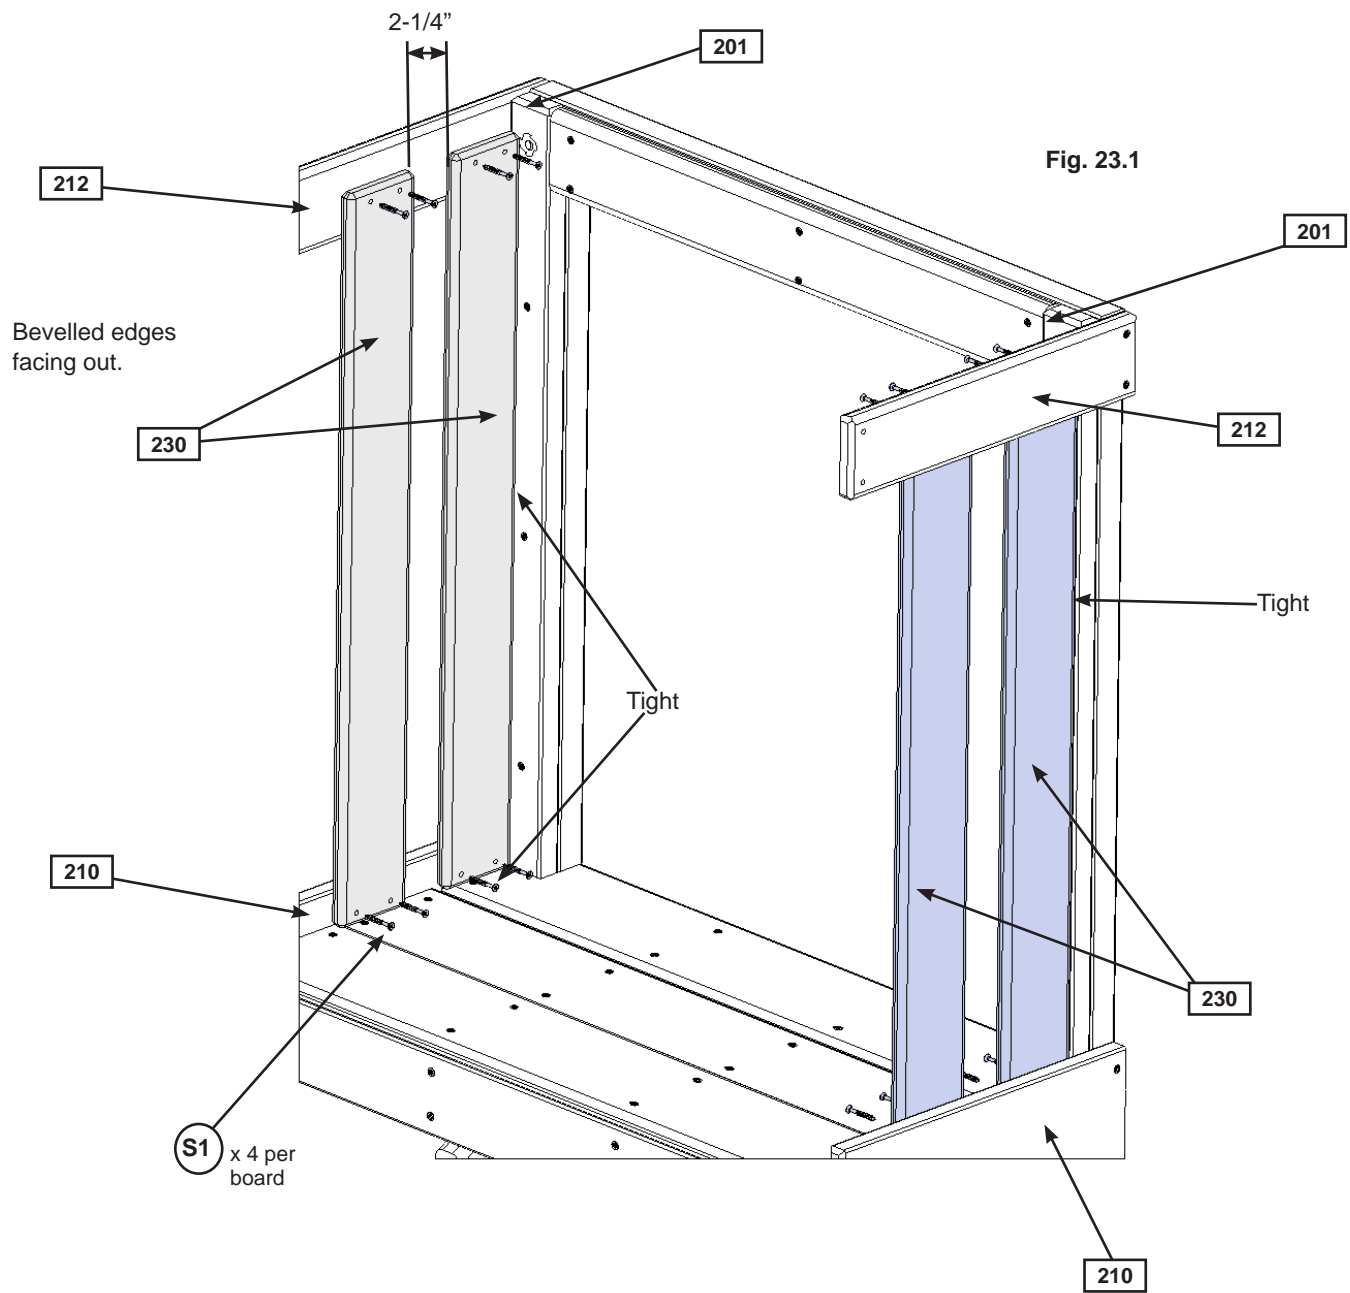

Fig. 23.1
**A:** Tight to each (201) Upright Crowsnest and tight to the floor and gap boards attach 1 (230) Cedar Wall to each (210) Crowsnest Bottom Side and (212) Crowsnest Side with 4 (S1) #8 x 1-1/8" Wood Screws per board. (fig. 23.1)
**B:** Measure 2-1/4" from each (230) Cedar Wall then attach another (230) Cedar Wall per side, tight to the floor and gap boards using 4 (S1) #8 x 1-1/8" Wood Screws per board. (fig. 23.1)